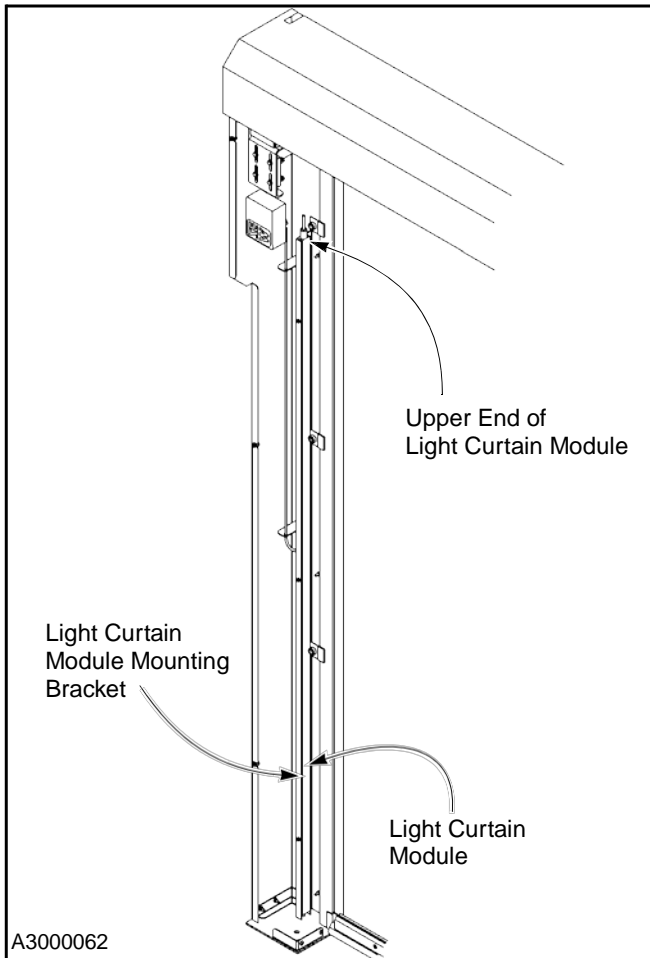

Figure 20
4. Loosen the two screws securing the connector plug bracket to the upper end of the light curtain module. Do not completely back the screws out of the bracket. (See Figure 20.)